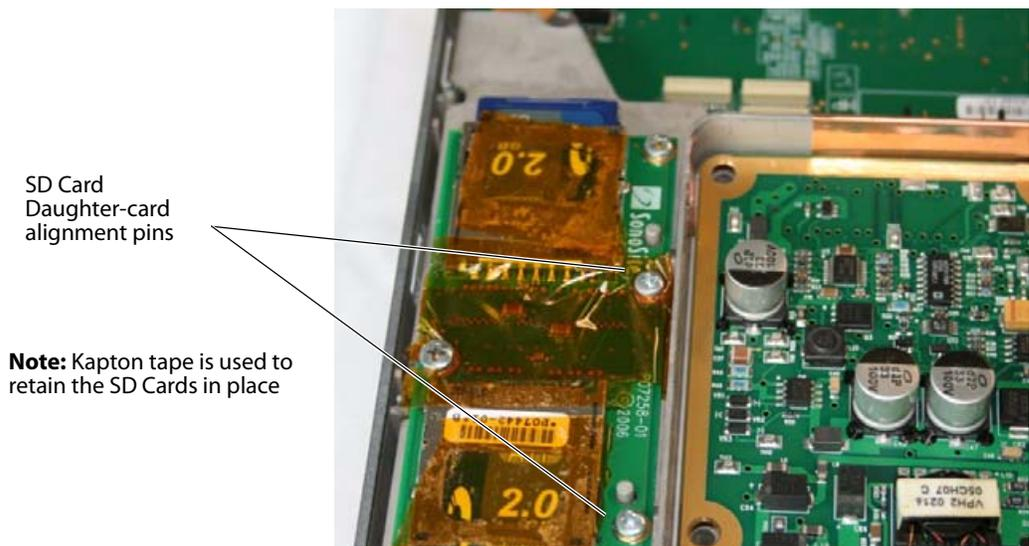

Figure 4.14 SD Card Daughter-card alignment
- 6 Install the SD Card Daughter-card onto the Main PCBA frame using the alignment holes/pins on the card and frame. See Figure 4.14.